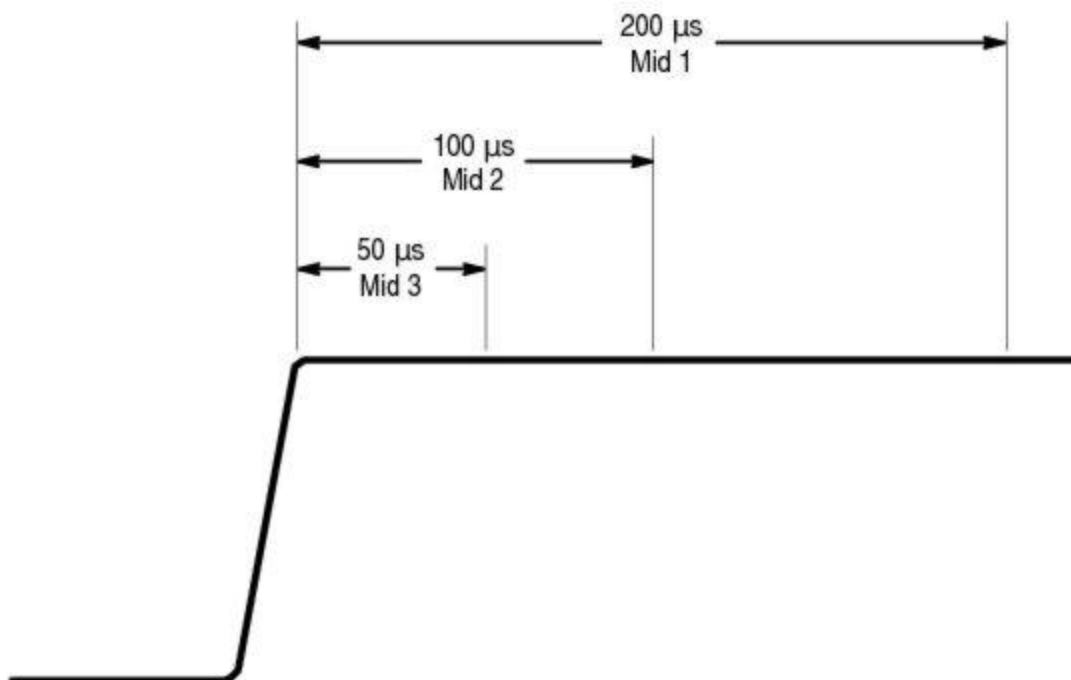

Figure 1–6: Zones Affected by Compensation Adjustments
5. Adjust **MID 1** (C1) to flatten the area 200 μs from the leading corner. Refer to Figure 1–6 to determine the zones affected by this and the following adjustments.